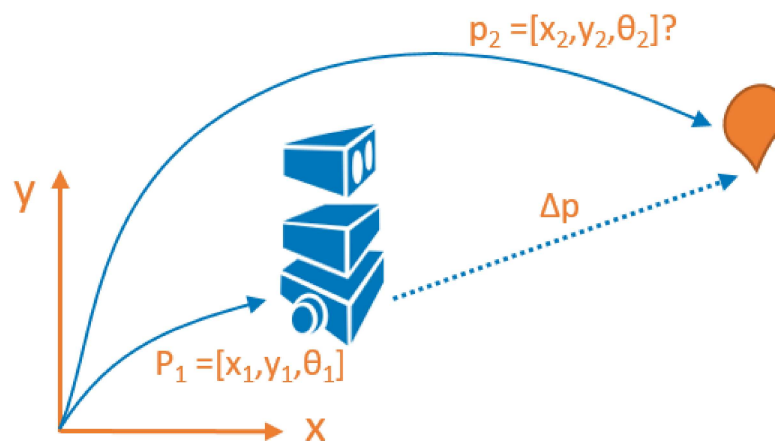

Fig. 1: Example of an initial 2D robot pose (p_1) and its resultant pose (p_2) after completing a motion (Δp).
- **2D pose:** In most cases involving mobile robots, the location alone is insufficient. We need an additional parameter known as orientation or *bearing*. Therefore, a robot's pose is usually expressed as $[x, y, \theta]^T$ (see Fig. 1). *In the rest of the book, we mostly refer to this one.*